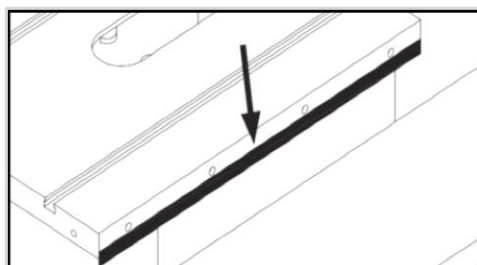
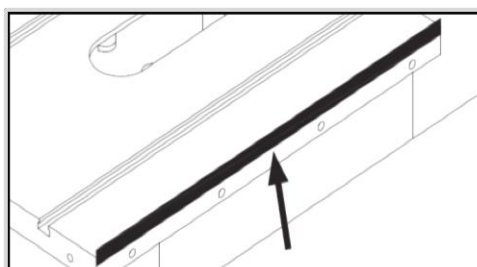

Figure 3: Masking Tape Location For Tilting The Extension Wing Up.
Figure 4: Masking Tape Location For Tilting The Extension Wing Down
4. If the outside end of extension wings tilts down or up, use a strip of masking tape to shim the extension wing up or down ;(See Figure 3 and Figure 4)